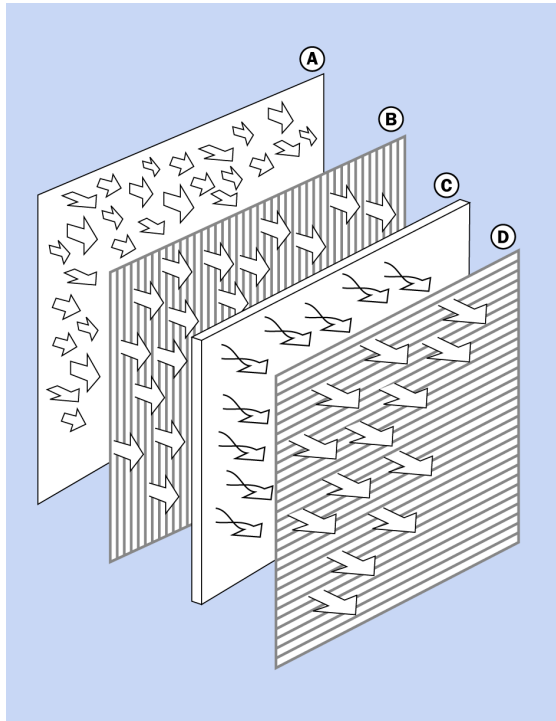

Figure 17-2. The combination of two polarizers and a liquid crystal appears transparent when voltage is not applied. See text for details.
Figure 17-2 shows a simplified view of an LCD that uses a backlight. Incoherent light emerges from the backlight panel (A) and enters a vertical polarizing filter (B) that limits the electric field vector. The polarized light then enters a liquid crystal (C) which is a liquid composed of molecules organized in a regular helical structure that rotates the polarity by 90 degrees when no voltage is applied to it. The light now passes through
A *transmissive LCD* requires a backlight to be visible, and is the type illustrated in Figure 17-2. In its simplest form, it is a monochrome device, but is often enhanced to display full color by adding red, green, and blue filters. Alternatively, instead of a white backlight, an array of pixel-sized red, green, and blue **LEDs** may be used, in which case filters are unnecessary.
In a *reflective LCD*, the structure is basically the same as that shown in Figure 17-2 except that a reflective surface is substituted for the backlight. Ambient light enters from the front of the display, and is either blocked by the liquid crystal in combination with the polarizing filters, or is allowed to reach the reflective surface at the rear, from which it reflects back through the liquid crystal to the eye of the user. This type of display is very easily readable in a bright environment, but will be difficult to see in dim conditions and will be invisible in darkness. Therefore, it may be augmented with a user-activated light source mounted at the side of the display.